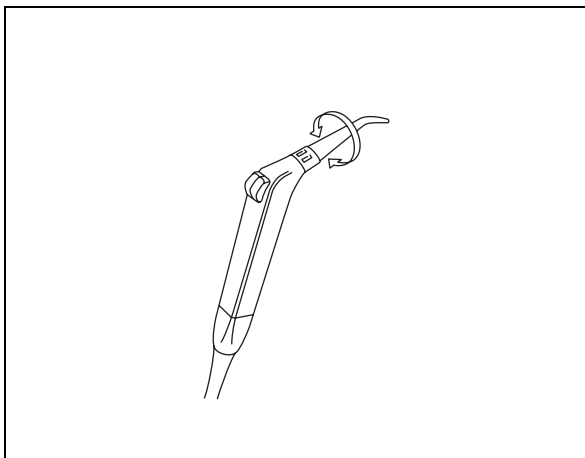

Fig. 22
- Select the required nozzle direction by turning the nozzle (Fig. 22).